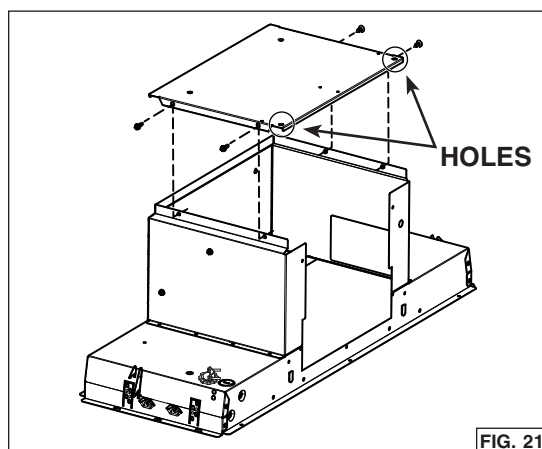

FIG. 21
9. Install the back plate on top of the unit, where the blower support plate was. Orient the holes nearby the corners towards the back of the unit. Assemble to the top of the unit using 4 screws previously removed in step 7 (FIG. 21).